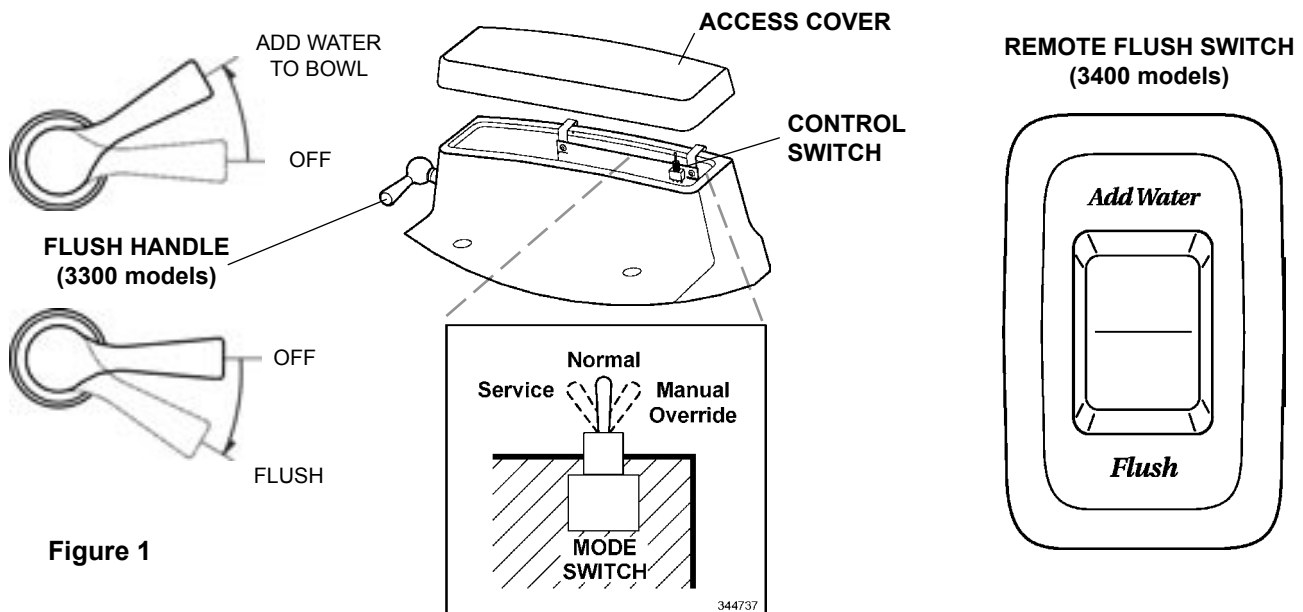

Figure 1
STEP 3: Mark the floor at the rear corners of the toilet bowl (fig. 1). Measure the distance between the two marks and divide by 2 to find the toilet centerline. Mark the floor at the rear wall for the centerline.